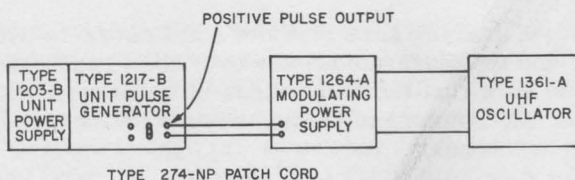

Figure 5. Connections for Pulse Modulation.
2.4.4 CONNECTIONS TO DRIVER. Figure 5 illustrates a typical setup of the Type 1264-A using an external driver (refer to paragraph 1.3.1).